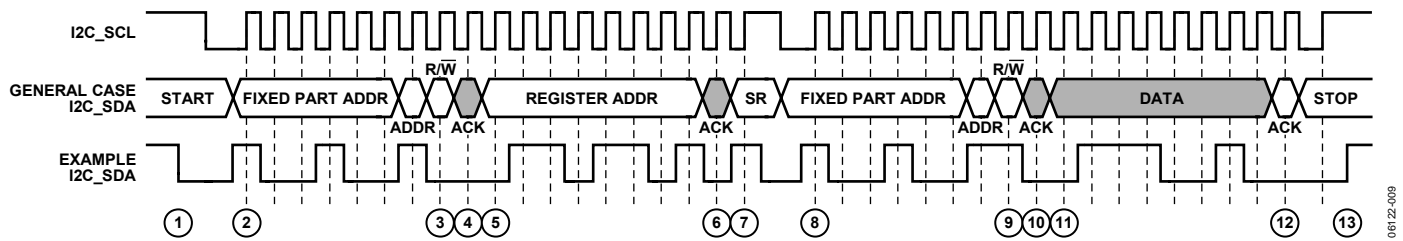

Figure 30. I2C Read Procedure
To read data from the AD8196 register set, an I2C master (such as a microcontroller) needs to send the appropriate control signals to the AD8196 slave device. The signals are controlled by the I2C master unless otherwise specified. For a diagram of the procedure, see Figure 30. The steps for a read procedure are as follows:
9. Send the read indicator bit (1).
- a. Send a stop condition (while holding the I2C\_SCL line high, pull the SDA line high) and release control of the bus to end the transaction (shown in Figure 30).